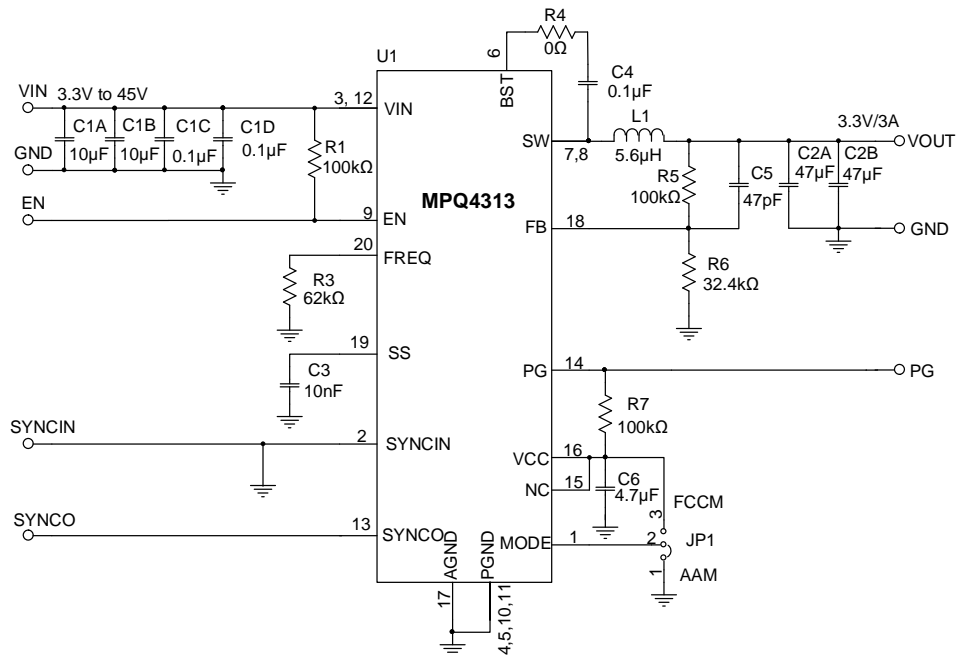

Figure 12: $V_{OUT} = 3.3V$, $f_{sw} = 470kHz$
- 9) The recommended PCB layout is based on Figure 12.